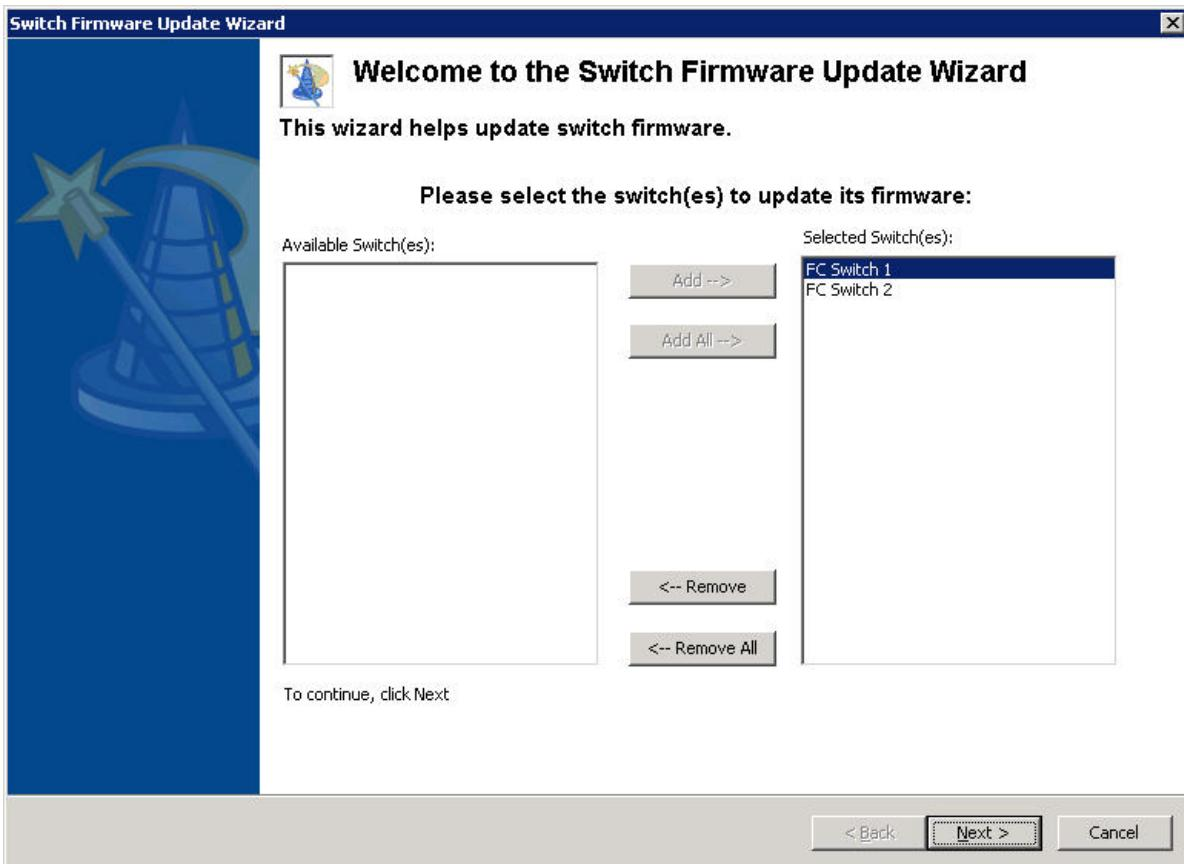

Figure 33 Switch Firmware Update Wizard: selecting a switch
2. If a specific switch is selected, click **Next** and skip to step 4. If no specific switch is selected, the wizard (Figure 33) prompts you to select one or more switches; continue with step 3.